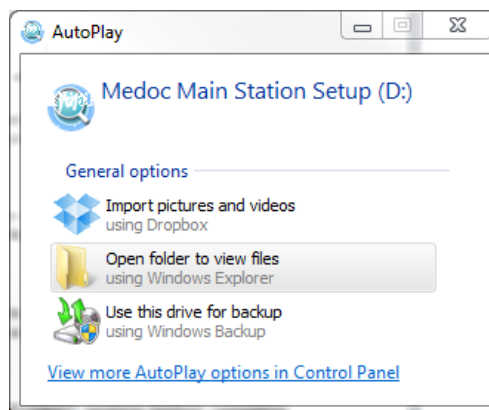

Figure 4: Open the Software folder
3. Click on "Open folder to view files" (see figure 4).